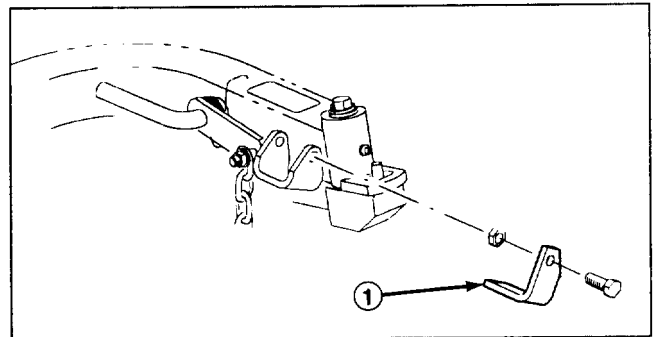

Figure 11
6. (Model 03504 only) On left rear lift arm only, mount a cutting unit stop with a 3/8-16 x 1" capscrew and locknut. Position stop as shown in fig. 11.